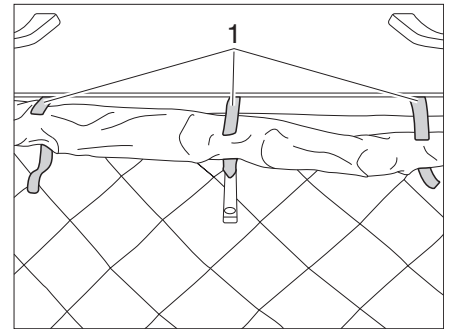

Fig. 4 Opening the Velcro
- Open the three Velcros (Fig. 4,1) of the cloth bellows.
- Roll up the cloth bellows in area of the locking mechanism with care and fasten with the three Velcros (Fig. 4,1).